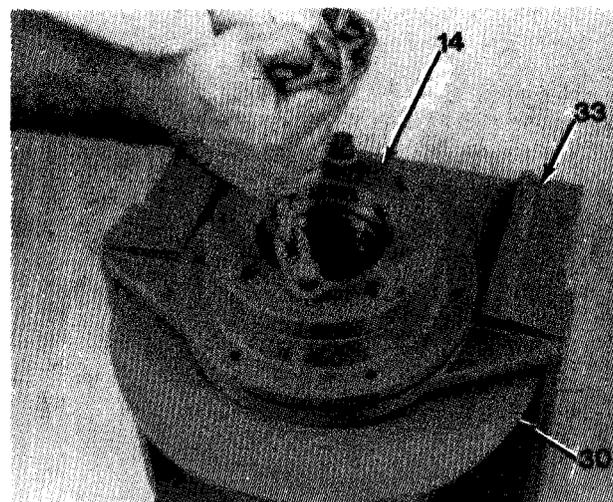

Figure 16-5
19. Lubricate pilot, oil seal and bearing surfaces of brake cylinder assembly (14, Figure 16-5) with lubricating oil MIL-L-2105, grade 80W90.
20. Install brake cylinder assembly (14) into base (33) and drum (30).